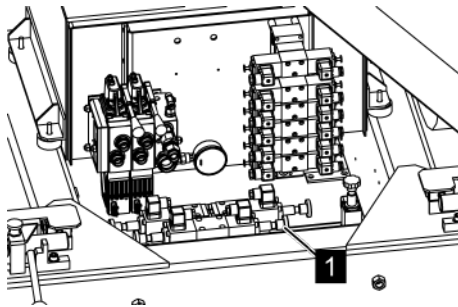

Fig. 134: Shuttle valve
4. ➔ For outrigger operation, lock the shuttle valve (Fig. 134/1).